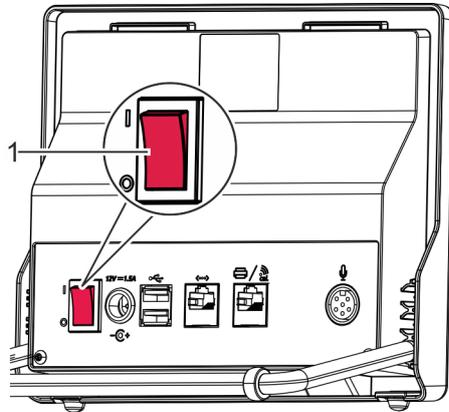

Fig. 38: Pressing the switch
1. → Set the switch (Fig. 38/1) to the [O] position.